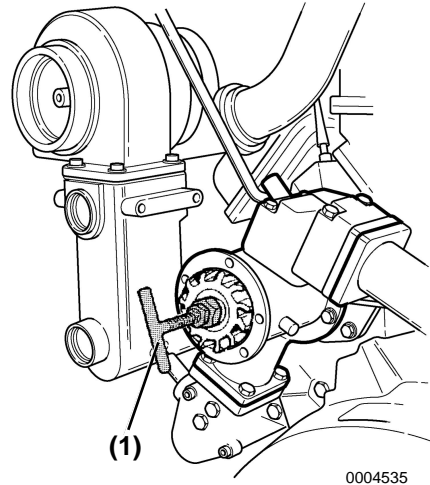

Figure 23
1. Remove the impeller using an impeller removal tool (**Figure 23, (1)**).